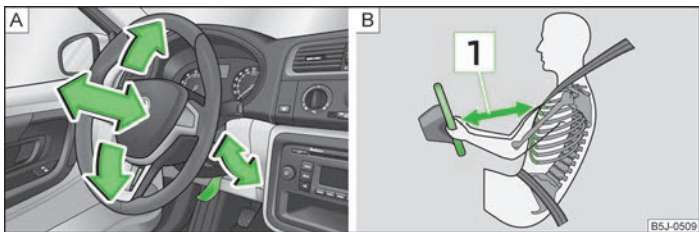

Fig. 81 Adjustable steering wheel: Lever below the steering column/safe distance to the steering wheel
- Maintain a distance of 25 cm **[1]** to the steering wheel » Fig. 81 on page 80 - **[B]**. Not maintaining this minimum distance will mean that the airbag system will not be able to properly protect you - hazard!
- Pull the lever below the steering wheel down » Fig. 81 - A.